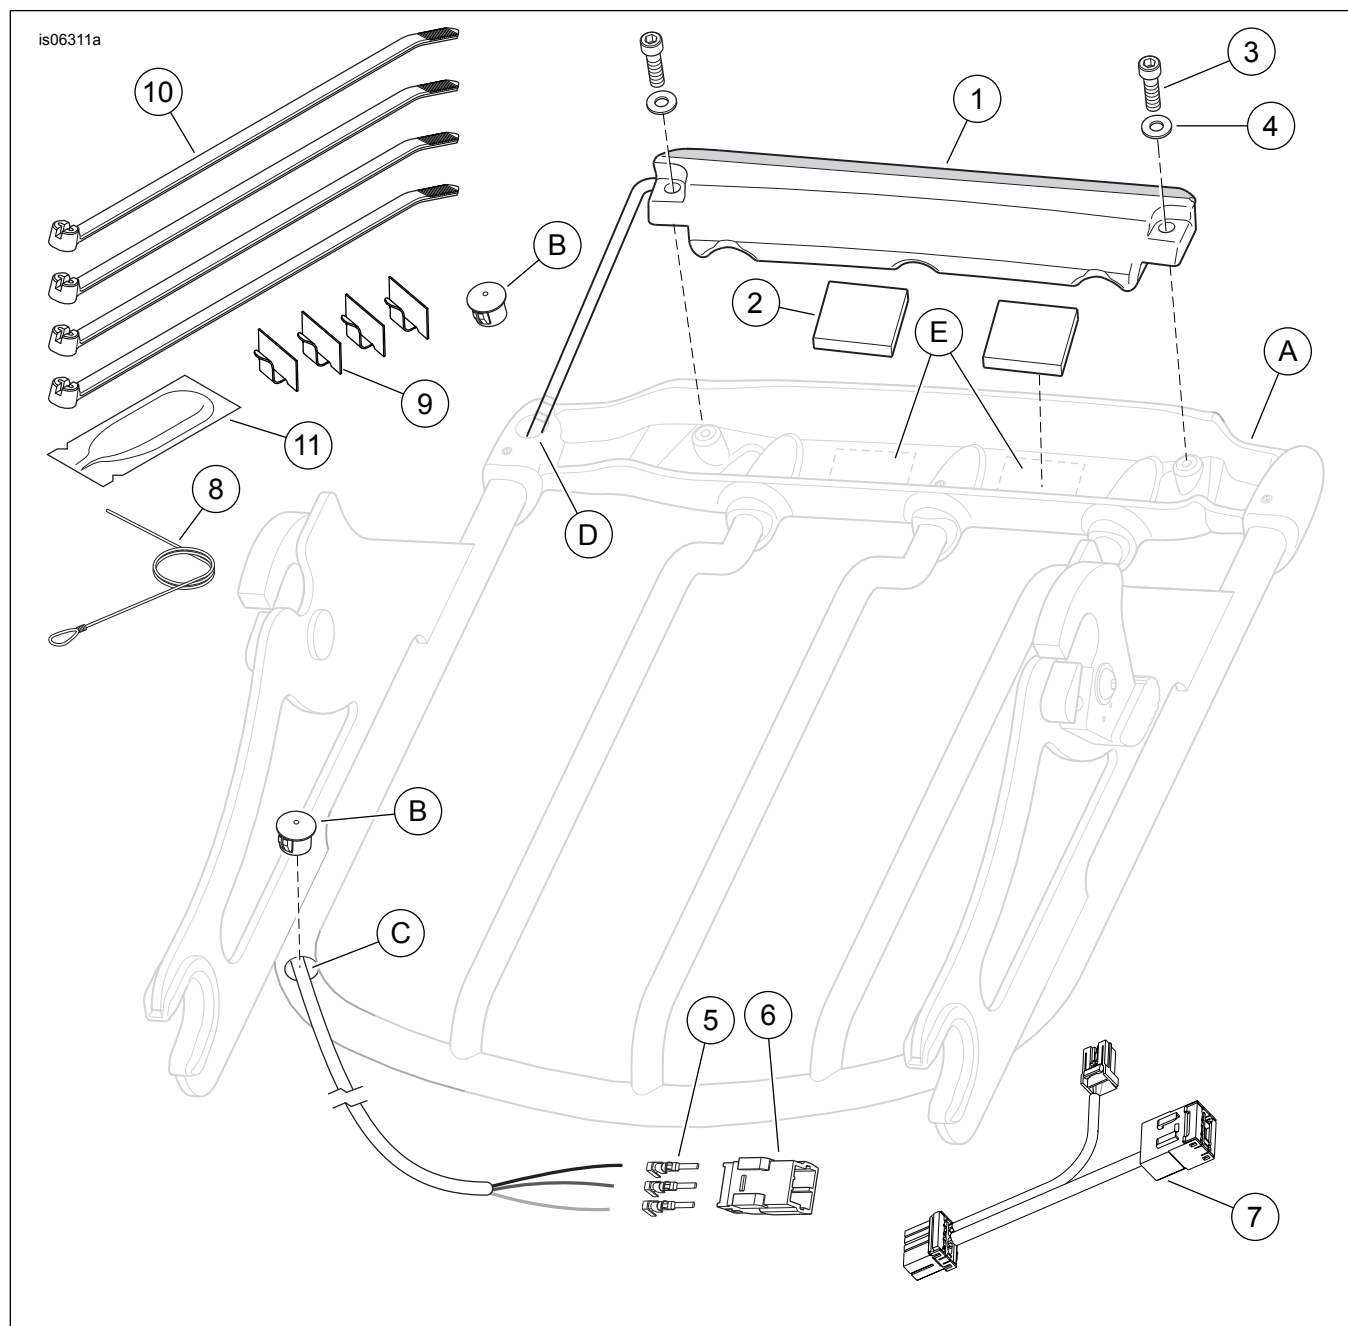

Figure 3. Service Parts: Air Wing Detachable Luggage Rack Light Kits
See Figure 3 and Table 1.
2. See Figure 3. Remove the Air Wing Detachable Luggage Rack (A) from the vehicle and place it upside-down on the work surface.
3. Remove the black plastic plugs (B) from the holes at the front and back of the left side rail.
4. Insert the loop end of the nylon monofilament guide wire (8) through the forward hole (C) in the rail, and out through the rear hole (D). Allow the straight end to remain outside the forward hole.
2. See Figure 3. Locate the tail light connector [7] between the main wiring harness and the rear fender harness under the seat. Disconnect the tail light connector and install the three-way harness (7).
4. Route the light assembly wires along the frame rail to the three-way connector. Fasten the light assembly wires to the vehicle with adhesive-backed clips (9) from the kit. Cut the light assembly wires to eliminate excess but allow easy connection to the extension harness.
5. Refer to the service manual and follow the instructions to crimp the pin terminals (5) to the three wires of the light assembly harness.
6. Insert the wires and terminals from the light assembly harness into the pin housing (6) from the kit:
7. Apply the contents of the dielectric grease packet (11) to the light and extension harness connector terminals.